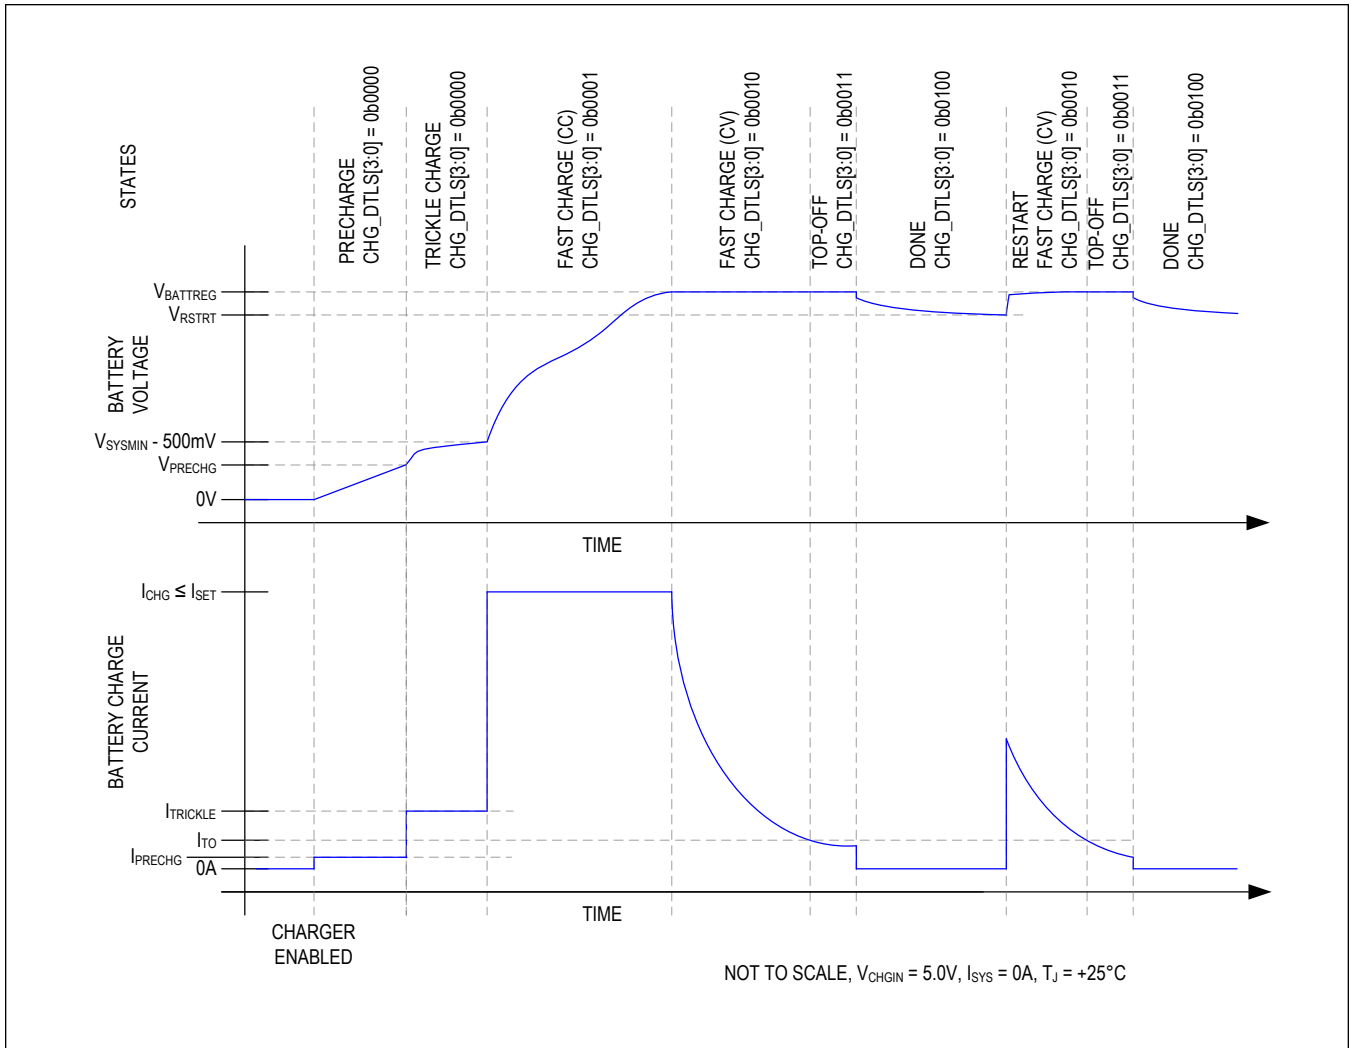
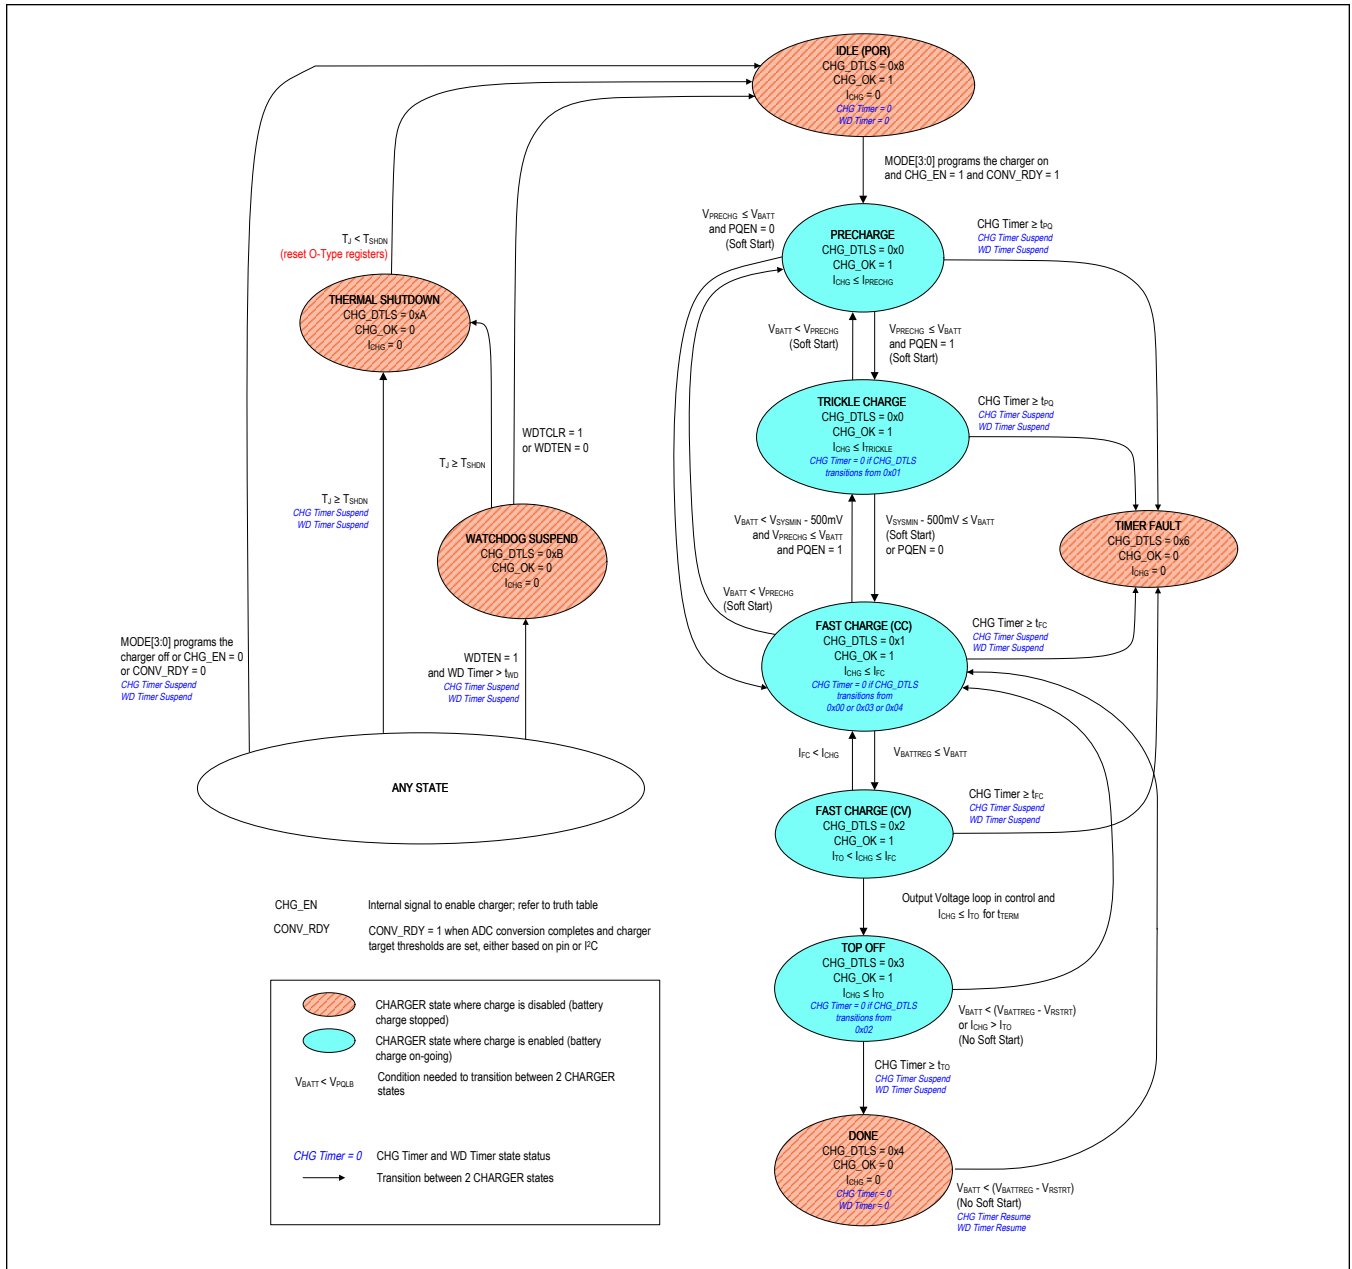

Figure 1. Li Battery Charge Profile
Figure 2. Charger State Diagram
The IC utilizes several charging states to safely and quickly charge batteries as shown in Figure 1 and Figure 2. Figure 1 shows an exaggerated view of a Li+/Li-Poly battery progressing through the following charge states when there is no system load and the die and battery are close to room temperature: Prequalification → Fast-charge → Top-off → Done.
From any state shown in Figure 2, except thermal shutdown, the “no input power or charger disabled” state is entered whenever the charger is programmed to be off or the charger input CHGIN is invalid. After being in this state for t_{SCIDG} , CHG_DTLS is set to 0x08 and CHG_OK is set to 1. A CHG_I interrupt is generated if CHG_OK was 0 previously.
As shown in Figure 2, the charger enters the precharge state when the battery voltage is less than V_{PRECHG} . After being in this state for t_{SCIDG} , a CHG_I interrupt is generated if CHG_OK was 0 previously, CHG_OK is set to 1, and CHG_DTLS is set to 0x00. In the precharge state, charge current into the battery is I_{PRECHG} .
As shown in Figure 2, the charger state machine is in trickle charge state when $V_{PRECHG} < V_{BATT} < V_{SYSTEMIN} - 500mV$. After being in this state for t_{SCIDG} , a CHG_I interrupt is generated if CHG_OK was 0 previously, CHG_OK is set to 1, and CHG_DTLS = 0x00.
As shown in Figure 2, the charger enters the fast-charge constant current (CC) state when $V_{\text{SYSTEMIN}} - 500\text{mV}$ (typ) < $V_{\text{BATT}} < V_{\text{BATTREG}}$. After being in the fast-charge CC state for t_{SCIDG} , a CHG_I interrupt is generated if CHG_OK was 0 previously, CHG_OK is set to 1, and CHG_DTLS = 0x01.
As shown in Figure 2, the charger enters the fast-charge constant voltage (CV) state when the battery voltage rises to V_{BATTREG} from the fast-charge CC state. After being in the fast-charge CV state for t_{SCIDG} , a CHG_I interrupt is generated if CHG_OK was 0 previously, CHG_OK is set to 1, and CHG_DTLS = 0x02.
In the fast-charge CV state, the battery charger maintains V_{BATTREG} across the battery and the charge current is less than or equal to I_{FC} . As shown in Figure 1, charger current decreases exponentially in this state as the battery becomes fully charged.
As shown in Figure 2, the top-off state can only be entered from the fast-charge CV state when the charger current decreases below I_{TO} for t_{TERM} . After being in the top-off state for t_{SCIDG} , a CHG_I interrupt is generated if CHG_OK was 0 previously, CHG_OK is set to 1, and CHG_DTLS = 0x03. In the top-off state the battery charger maintains $V_{BATTREG}$ across the battery and typically the charge current is less than or equal to I_{TO} .
As shown in Figure 2, the battery charger enters its done state after the charger has been in the top-off state for t_{TO} . After being in this state for t_{SCIDG} , a CHG_I interrupt is generated only if CHG_OK was 0 previously, CHG_OK is set to 0, and CHG_DTLS = 0x04.
The battery charger provides both a charge timer and a watchdog timer to ensure safe charging. As shown in Figure 2, the charge timer prevents the battery from charging indefinitely. The time that the charger is allowed to remain in its prequalification states is t_{PQ} . The time that the charger is allowed to remain in the fast-charge CC and CV states is t_{FC} which is programmable with FCHGTIME. Finally, the time that the charger is in the top-off state is t_{TO} which is programmable with TO_TIME. Upon entering the timer fault state, a CHG_I interrupt is generated without a delay, CHG_OK is cleared, and CHG_DTLS = 0x06.
The charger is off in the timer fault state. The charger can exit the timer fault state when the charger is programmed to be off then on again through the MODE bits or when DISQBAT pin is toggled from L-H-L. Alternatively, the charger input can be removed and re-inserted to exit the timer fault state (see the “ANY STATE” bubble in Figure 2).
The battery charger provides both a charge timer and a watchdog timer to ensure safe charging. As shown in Figure 2, the watchdog timer protects the battery from charging indefinitely in the event that the host hangs or otherwise cannot communicate correctly. The watchdog timer is disabled by default with WDTEN = 0. Enable the feature by setting WDTEN = 1. With watchdog timer enabled, the host controller must reset the watchdog timer within the timer period (t_{WD}) in order for the charger to operate properly. Reset the watchdog timer by programming WDTCLR = 0x01.
As shown in Figure 2, the state machine enters the thermal shutdown state when the junction temperature (T_J) exceeds the device's thermal-shutdown threshold (T_{SHDN}). When T_J is close to T_{SHDN} , the charger would have already folded back the input current to 0A (see the Thermal Foldback section for more details), so the charger and the DC-DC are effectively off. Upon entering this state, CHG_I interrupt is generated if CHG_OK was 1 previously, CHG_OK is cleared, and CHG_DTLS = 0x0A.